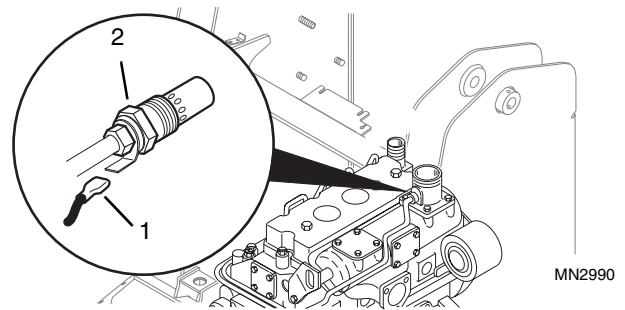

Figure 10-61 Thermo Start Plug
30. Disconnect white/brown wire #4 (Fig. 10-61, 1) from the thermo start plug (2).